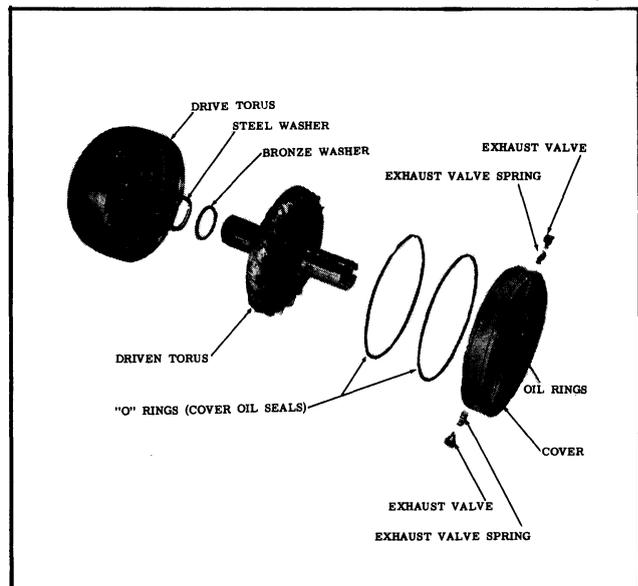

**Fig. 3-92 Removing Front Unit Coupling Cover**
4. Tighten the 4 nuts alternately to prevent cocking the cover while removing. There are 2 square "O" rings that will hang up in the snap ring groove and a greater effort will be required to shear the rings when they drop into the snap ring groove. (See Fig. 3-92)